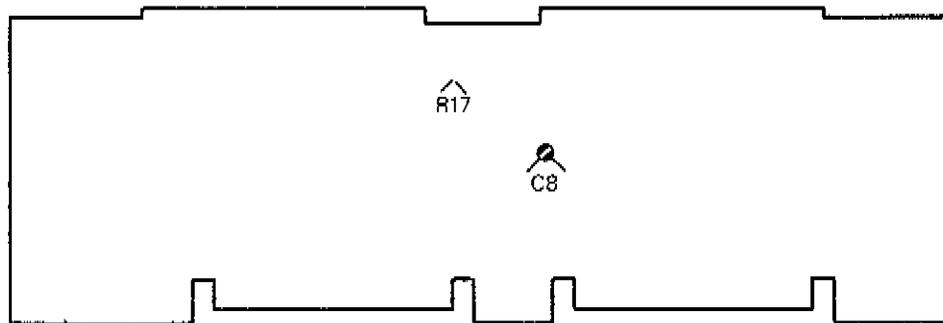

Figure 5-13 A32 Adjustment Locations
9. Set the 3716A BB POWER to -37dBm (-36dBm Opt 010). Adjust 3717A A32R17 for the first carrier null. (See Figure 5-13 for Adjustment locations.)
3. Set the 3717A VIDEO MODE to MOD INV. Set the 3716A BB FREQUENCY to 83kHz (92kHz Opt 010). Adjust A33R9 for the first carrier null on the 3702B display. (See Figure 5-13 for Adjustment Locations.)